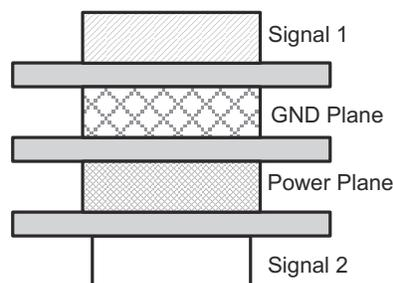

Figure 11-2. Example Layout
- When working with high frequencies, a printed circuit board with at least four layers is recommended; two signal layers separated by a ground and power layer as shown in Figure 11-2.